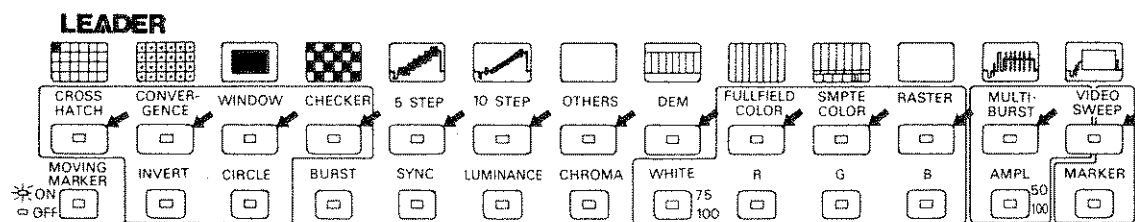

Figure 4.3
4.2.2 Selecting Patterns (See Figure 4.3)